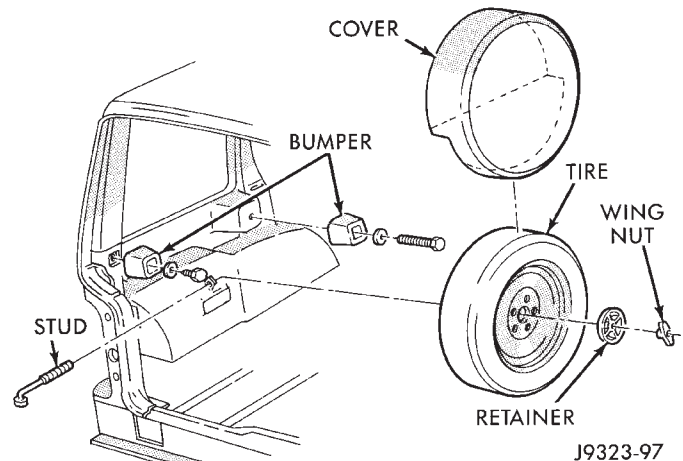

Fig. 45 Tire Stand-Offs—Left Quarter Trim Panel
- (3) If equipped, remove sunshade cover.
- (4) Remove C-pillar trim panel.
- (5) Remove screws retaining upper liftgate opening trim panel.
- (6) Disconnect wiring to cargo lamp.
- (7) Remove lower liftgate opening trim panel.
- (8) Remove D-pillar upper trim panel.
- (9) Remove quarter trim panel mounting screws.
- (10) If necessary, remove spare tire and tire stand-offs from left quarter trim panel (Fig. 45).
- (11) Remove rear quarter trim panel.